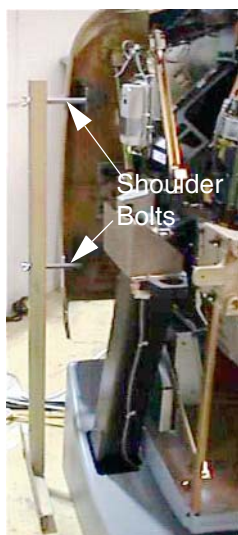

Figure A-23 One side of the Rear cover dolly
- b.) Fit the side dolly through the shoulder bolts and secure the assembly with two (2) wing-nuts (see Figure A-23).
The front and rear covers are held in a fixed vertical position by the cover locking mechanisms. These are located on each side of the cover at the vertical middle. The only adjustment capability is found on each of the cover cantrells (see Figure A-23), one near each corner of the front and rear covers. Adjustments are best done at zero tilt.
- 5.) Use a 5 mm hex wrench to adjust the bolt on the gantry-end of the cover cantrells (see Figure A-23). Lengthen or shorten the cantrell arm that pushes or pulls the cover corner. The distance between the inside edges of the front and rear covers is typically 27 in. + 1/8 in. (689 mm). Hang the covers level using a level on the inside vertical edge. Maintain the distance along the inside edges from top to bottom.